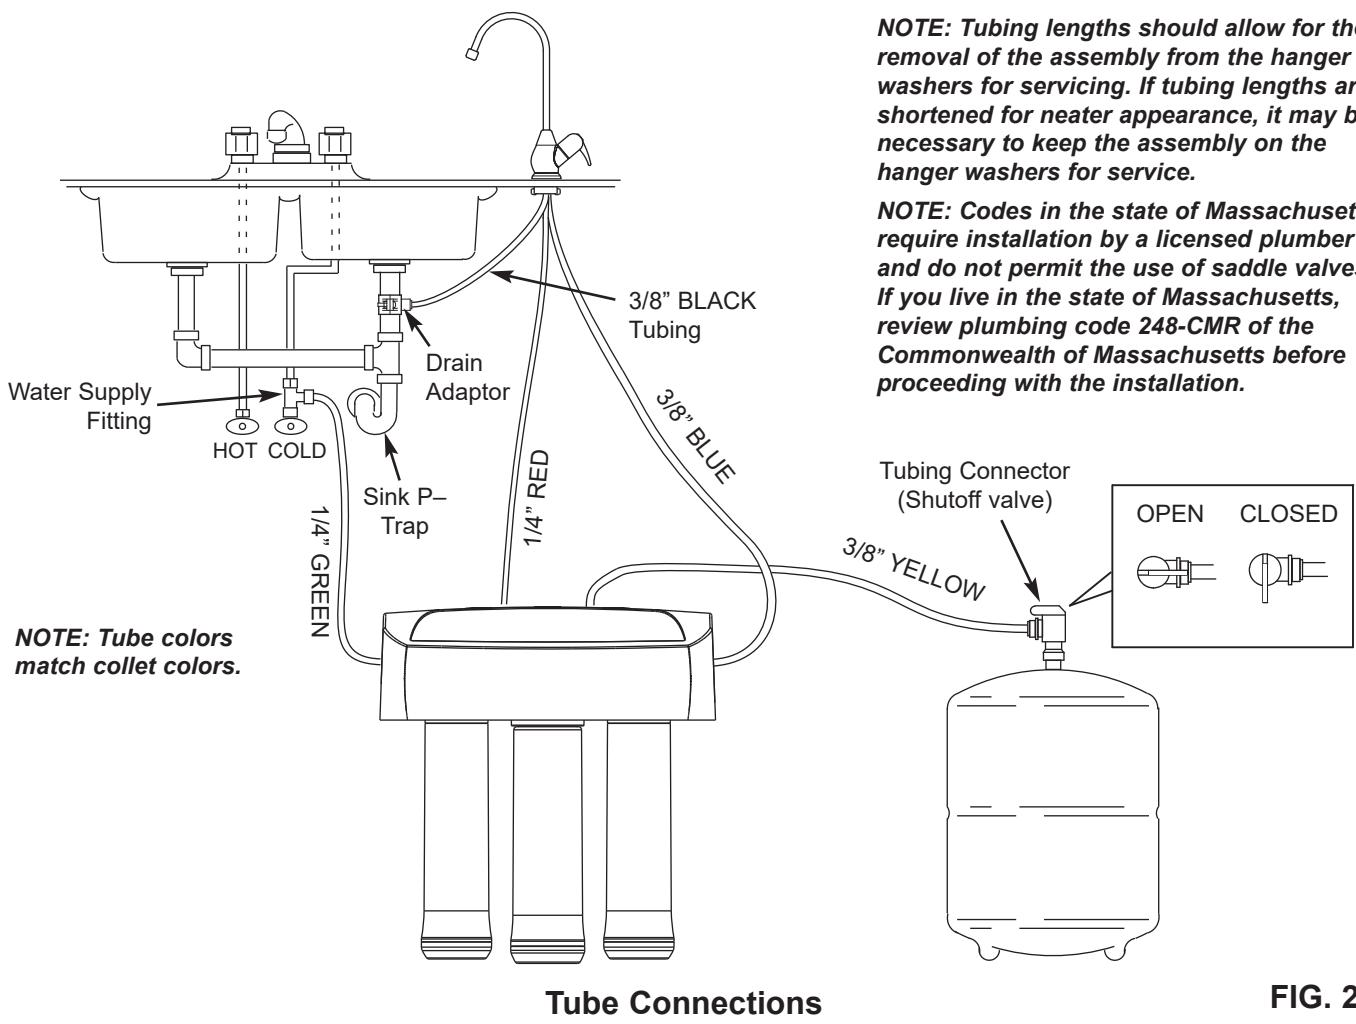

FIG. 23
- Remove shipping cap from the loose end of the yellow tube. Route yellow tube to the fitting on top of the storage tank. See Fig. 23.
- Route one end of the 1/4" green tube to the fitting on the water supply pipe. See Fig. 23.
- Locate the blue tube attached to the faucet. Fig. 23.
- Locate the 3/8" black tube attached to the faucet. Fig 23.